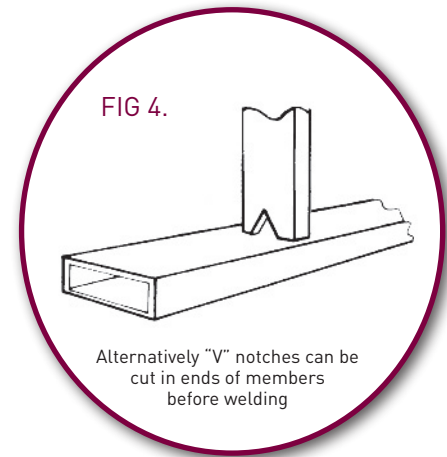

FIG 4.
- Two holes or lifting lugs required in plates where detailed in Fig 4 (two holes or lugs in total/see below).